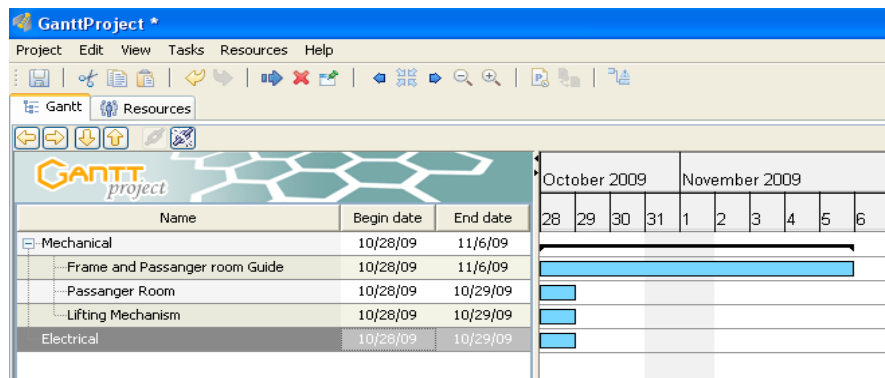

Figure 4.16: Tasks and subtasks
10. Click anywhere in an empty area of the Tasks pane to deselect any tasks, then click the **New Task** button. Specify a name of **Electrical Work**, and then press **ENTER**. Notice that because no task was selected and you did not click the **Indent** button, this task did not become a subtask of **Mechanical Work** as shown in figure 4.16.